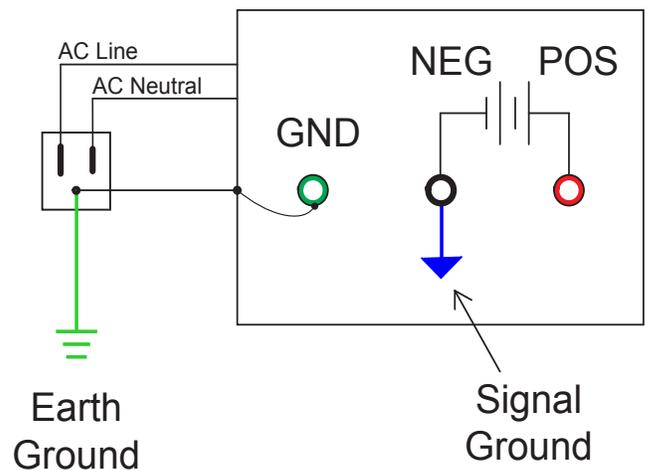

Figure 1. Definition of Ground Symbols
Before diving into a discussion of how to ground a laser control system, a discussion of nomenclature is in order. **Figure 1** illustrates the schematic representations of ground that will be used in this paper:
- **Signal Ground:** the Signal Ground is a low impedance current return path to the power supply. In **Figure 1** the analog signal ground is "floating" since it is not connected to the earth ground.